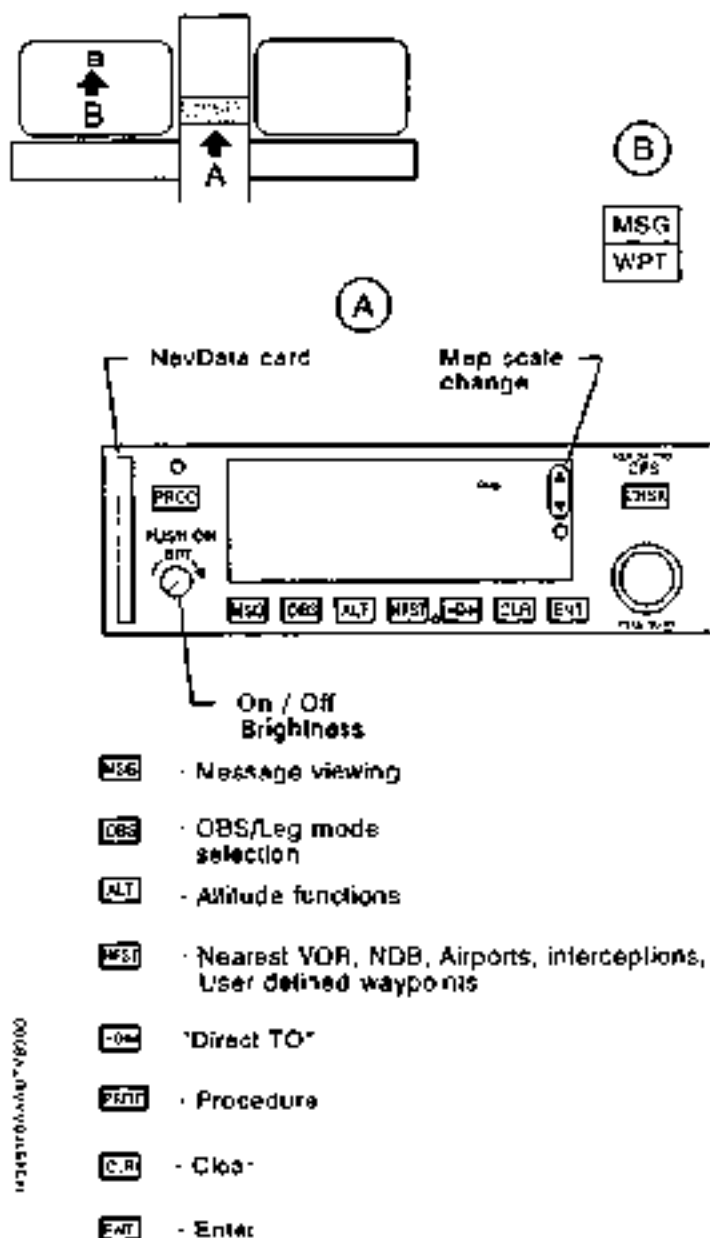

Figure 9.52.2 - "HONEYWELL" KLN 94 GPS SYSTEM
- one KLN 94 GPS installed in radio rack - see Figure 9.52.2.